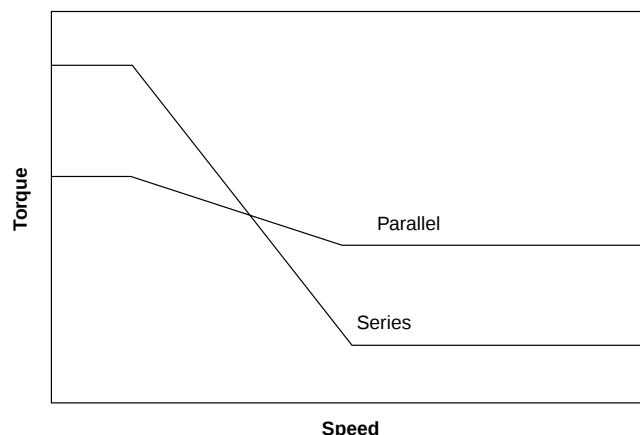

Figure 20: Motor Performance per Connection Method
- **Motor Connection Method:** (Series or Parallel) Connecting a motor in series results in 4 times the inductance as compared to a parallel connected motor. The result is that a series connection will provide better low speed performance and less heating, while a parallel connection will provide better high-speed performance, and will create more heating. For a comparison of performance for Series and Parallel Connections, see Figure 20.